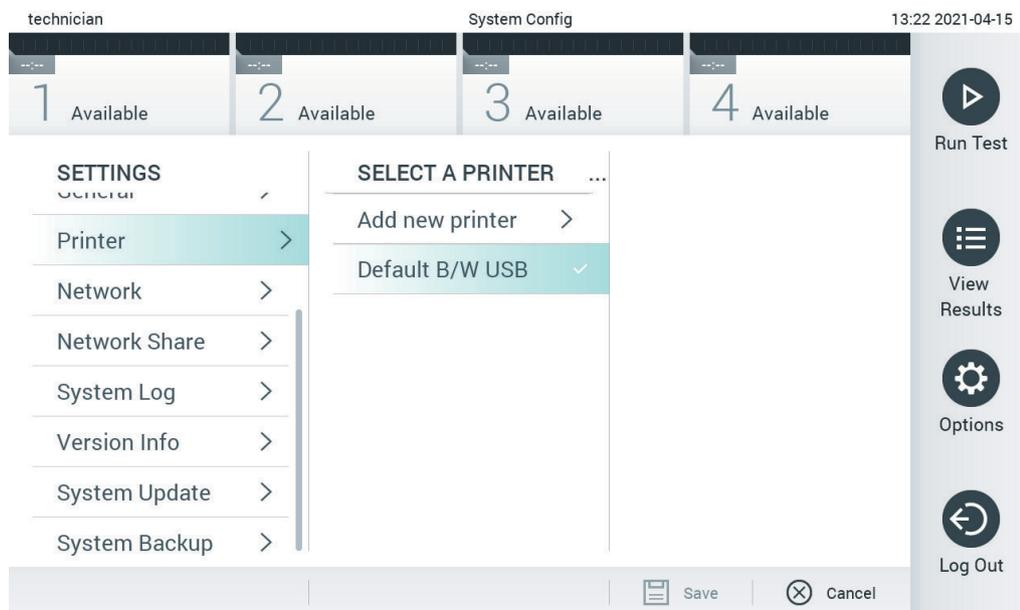

Figure 73. Selecting a system printer.
3. Select a printer from the list of available printers (Figure 73).